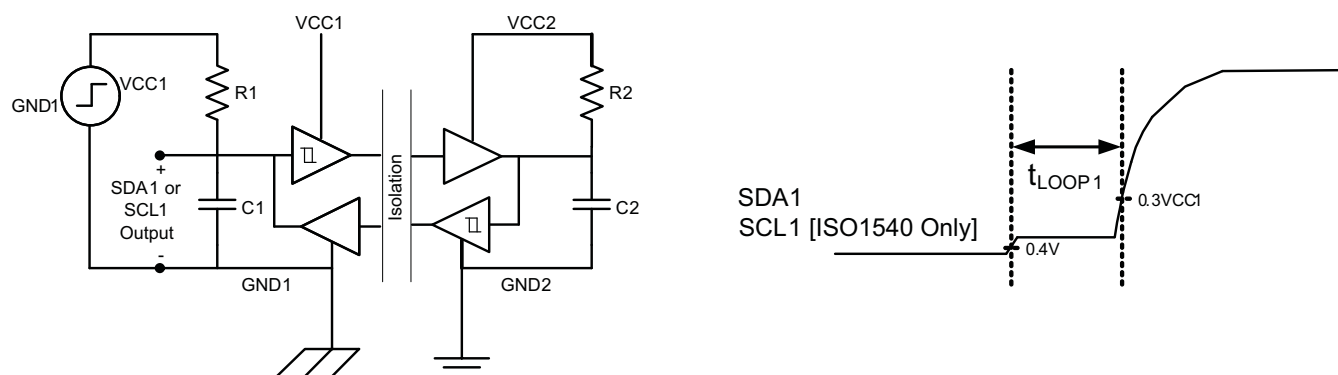

Figure 2.  $t_{LOOP1}$  Setup and Timing Diagram
| t LOOP1 (1)  | Round-trip propagation delay on Side 1                            | See <a href="#">Figure 2</a> ;R 1 = 953 Ω, C 1 = 40 pFR 2 = 95.3 Ω, C 2 = 400 pF | 0.4 V to 0.3 x VCC1      |     | 100 | 165 | ns   |
| t LOOP1 (1)  | Round-trip propagation delay on Side 1                            | See <a href="#">Figure 2</a> ;R 1 = 1430 Ω, C 1 = 40 pFR 2 = 143 Ω, C 2 = 400 pF | 0.4 V to 0.3 x VCC1      |     | 110 | 180 | ns   |